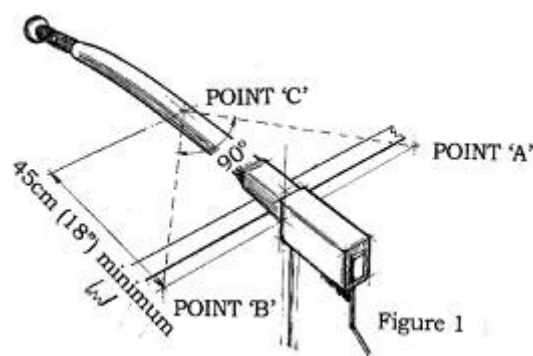

Figure 1
- a) It is important to get points 'A', 'B' and 'C' in Figure 1 so that the rope makes about a 90° angle at 'C'.
- d) Move the fixings to points 'AA', 'BB' and 'CC' if necessary to achieve the minimum of 45cm shown in Figures 1 and 3